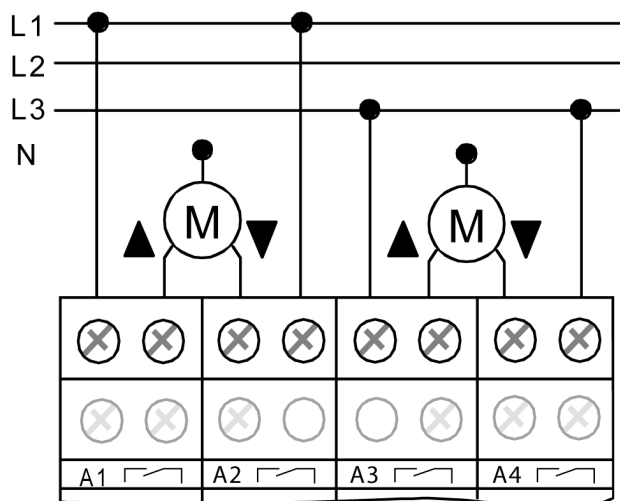

Figure 3: Electrical connection for 230 V drives in blinds operation
- Connect the drives as shown in the wiring example (Figure 3).